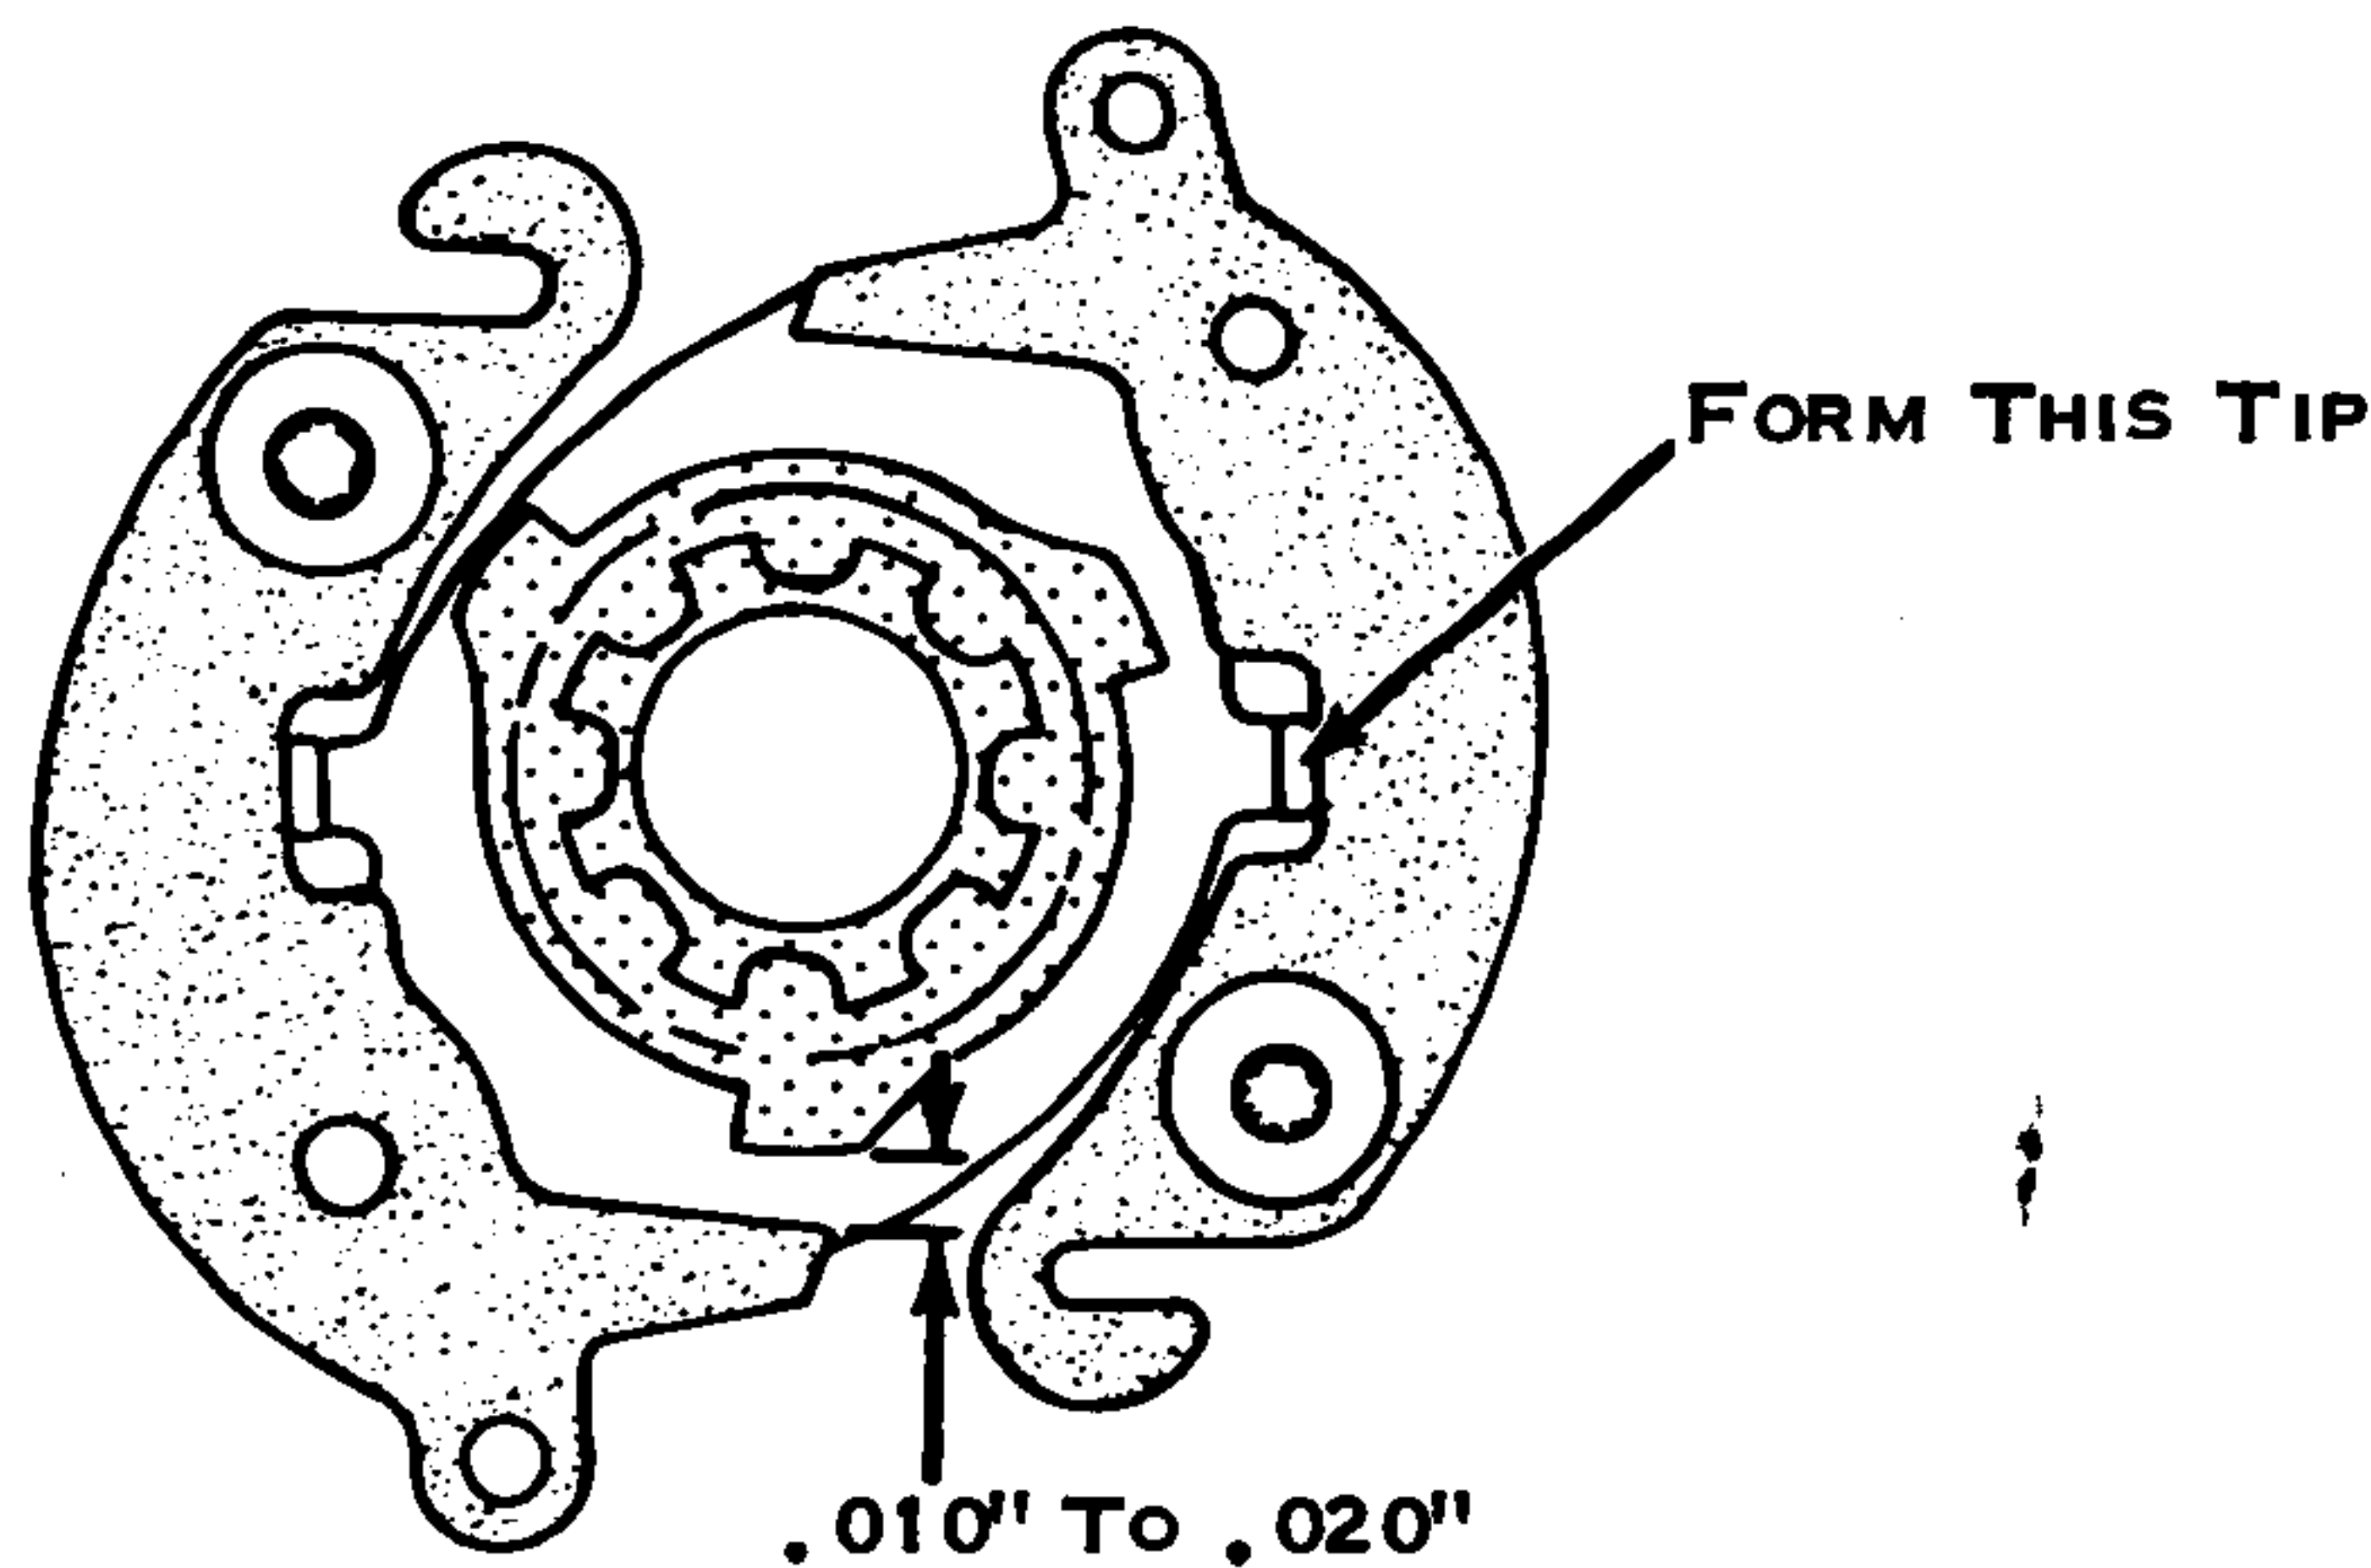

Figure 1. Motor Clutch Pawls
3. Motor Clutch Pawl Stops (Fig. 1) - Form for a clearance of .010" to .020" between the clutch pawl tip and pulley ratchet when the pulley is manually rotated.